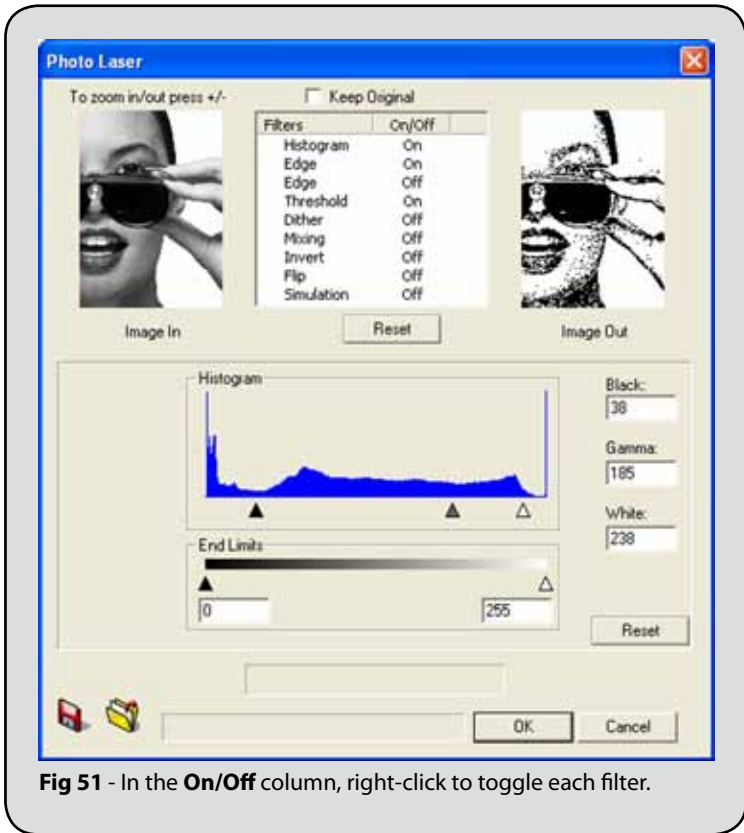

Fig 51 - In the **On/Off** column, right-click to toggle each filter.
3. The **Photo Laser** dialog will preview the effect of applying the various filters. (Fig. 51)